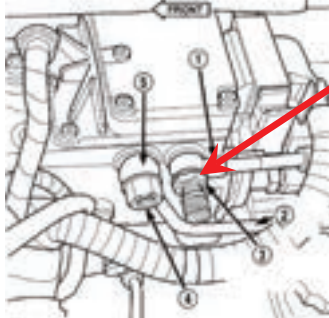

Figure 15
- 5a-1. Remove the 12mm banjo bolt and original factory fuel supply line at the fuel inlet port of the VP-44 pump (Figure 15) using a 17mm wrench.